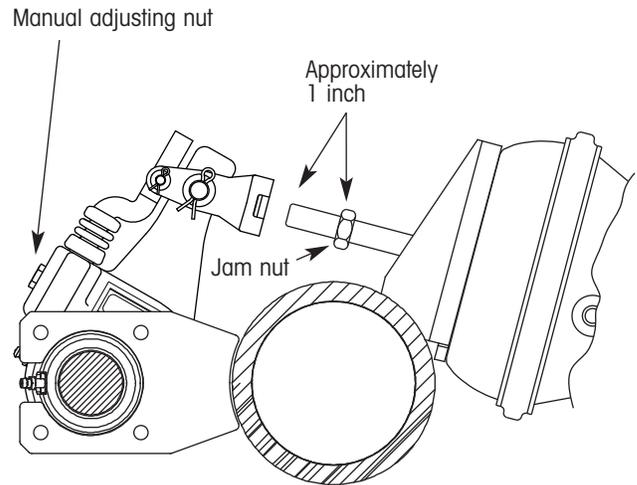

Figure 7. Installing the slack adjuster
- Position brake actuator push rod jam nut approximately one inch away from the end of the push rod (figure 7).